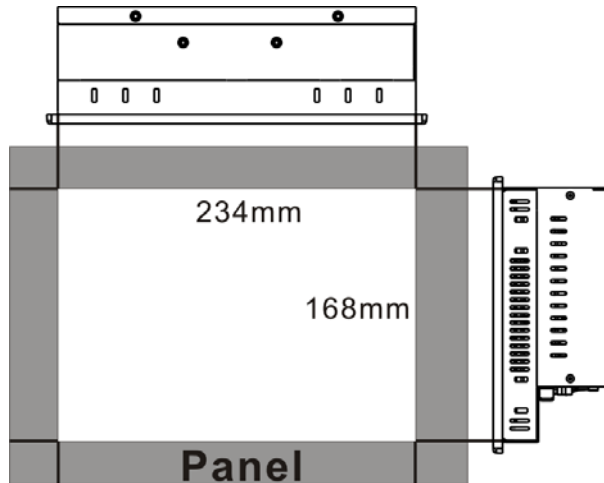
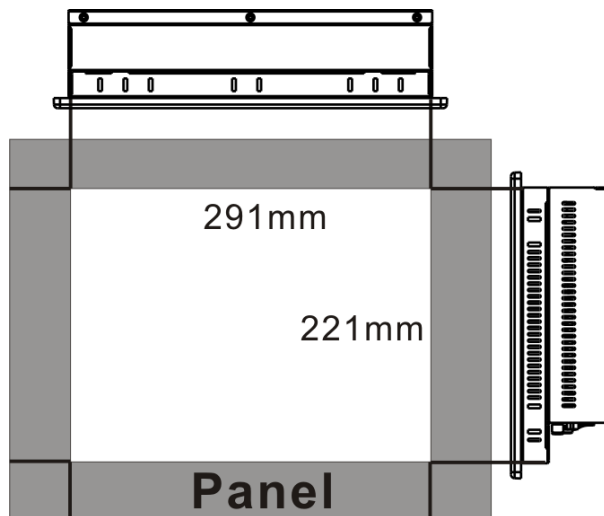

Figure 4-22: Suggested Panel Cut Out Size for PPC-3708A-N270
Figure 4-23: Suggested Panel Cut Out Size for PPC-3710A-N270
- Step 2:** Cut out a section from the panel that corresponds to the dimensions of the flat panel PC chassis. The panel section that is cut out must be smaller than the size of the aluminum frame that surrounds the TFT LCD panel but just large enough for the chassis to fit through. Refer to **Figure 4-22** and **Figure 4-23** for the suggested cut out size.